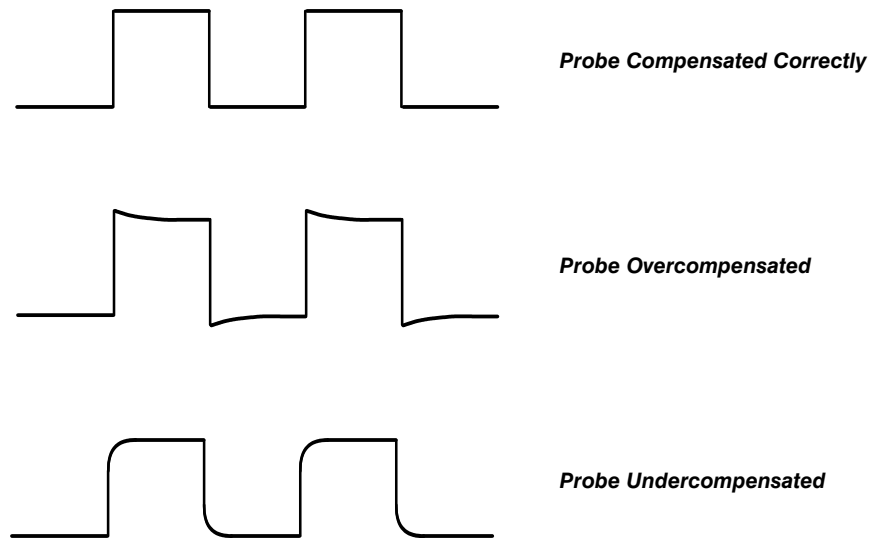

Figure 2-8: How Probe Compensation Affects Signals
3. Check that the waveform indicates correct compensation (see Figure 2-8). If the waveform indicates over or undercompensation, use the alignment tool provided with the probe to adjust the compensation as shown in Figure 2-9.